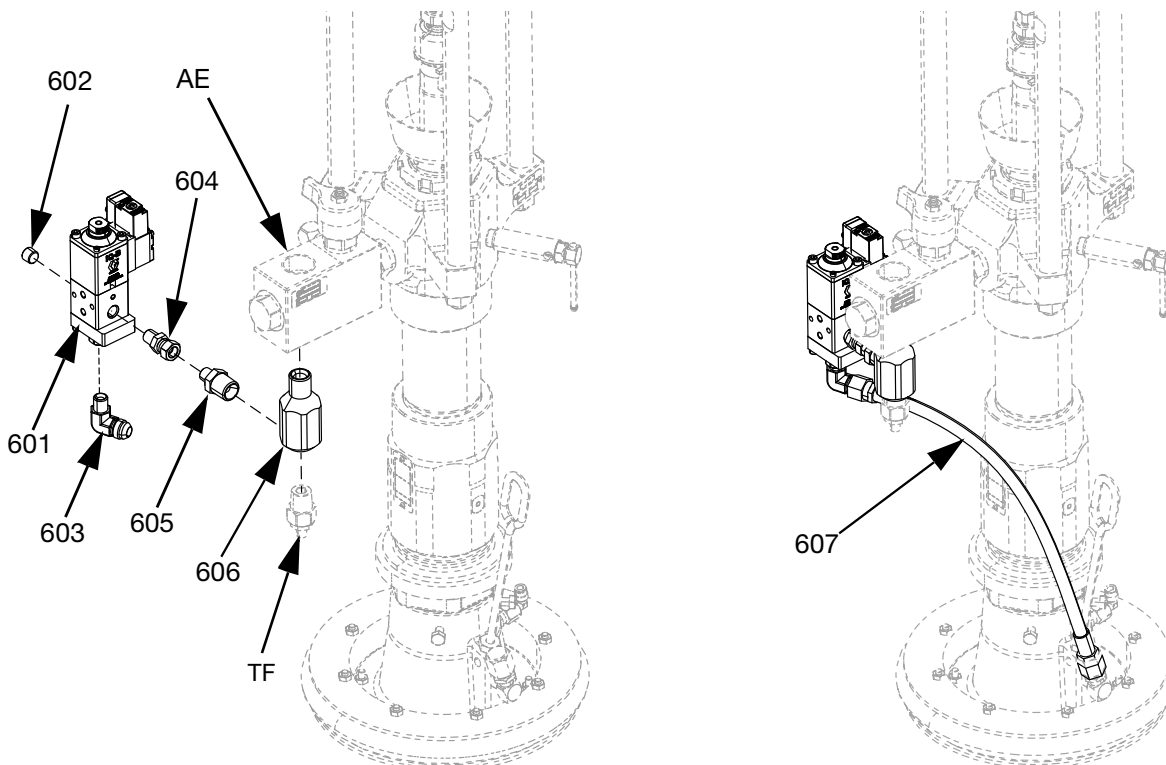
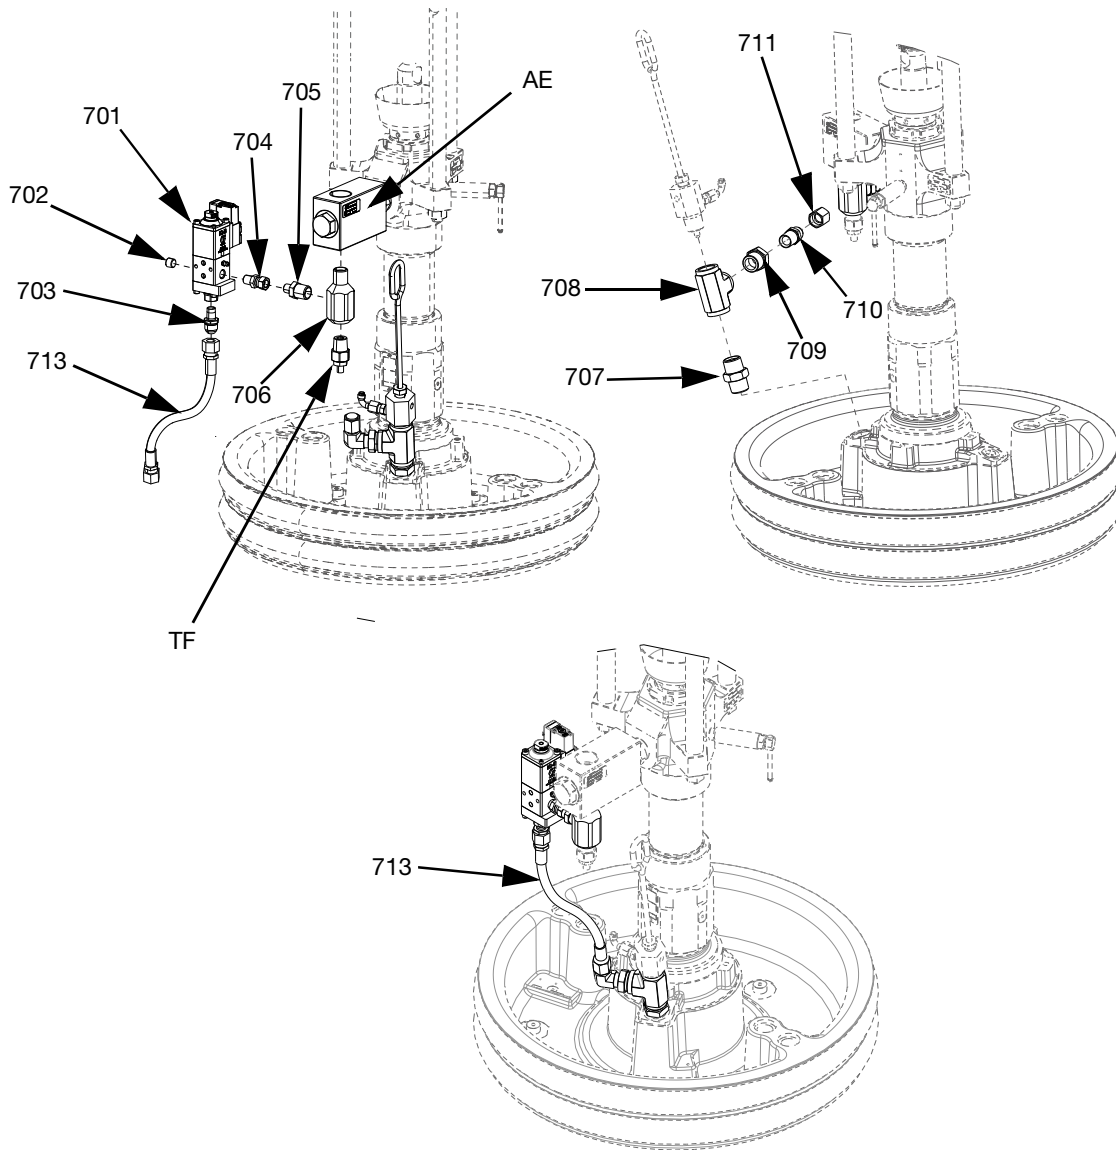

FIG. 65: Platen Valve Kit, 25R452
Fig. 69: Platen Valve Kit, 25R453
2. Disconnect the pressure transducer from port 5 on the Electric Driver (AB).
3. Remove the pressure transducer fitting (TF) and the fitting it is attached to from the Fluid Check Valve (AE).
4. Using thread tape, install the 1/2 NPT tee fitting (606) into the Fluid Check Valve (AE), then reinstall the pressure transducer fitting (TF) into the bottom of the 1/2 NPT tee fitting (606).
5. Using thread tape, install the 1/4 NPT x 1/2 NPT adapter (605) into the 1/2 NPT tee fitting (606). See FIG. 65.
6. Install the platen valve (601) onto the 1/4 NPT fitting (606) using the swivel fitting (604), then tighten.
7. Install the recirculation hose (607) onto the platen valve (601) and tighten.
8. Reconnect the pressure transducer to port 5 on the Electric Driver (AB).
4. Using thread tape, install the 1/2 NPT tee fitting (706) into the Fluid Check Valve (AE), then reinstall the pressure transducer fitting (TF) into the bottom of the 1/2 NPT tee fitting (706).
5. Using thread tape, install the 1/4 NPT x 1/2 NPT adapter (705) into the 1/2 NPT tee fitting (706). See FIG. 65.
6. Install the platen valve (701) onto the 1/4 NPT fitting (706) using the swivel fitting (704), then tighten.
7. Install the recirculation hose (713) onto the platen valve (701) and tighten.
9. Remove the Bleed Stick (EF) and Bleed Port (EG), and install the fittings (707, 708, 709, 710, 711) as shown in FIG. 69.
**NOTE:** Do not install the recirculation hose (713) onto the platen valve fitting (703) until material has been loaded into the platen valve (701). See the E-Flo iQ Operation manual for instructions to load material into the platen and platen valve.
10. Unplug the existing M12 connector from port 3 on the Electric Driver (AB).
11. Connect the harness (714) to port 3 on the Electric Driver (AB).